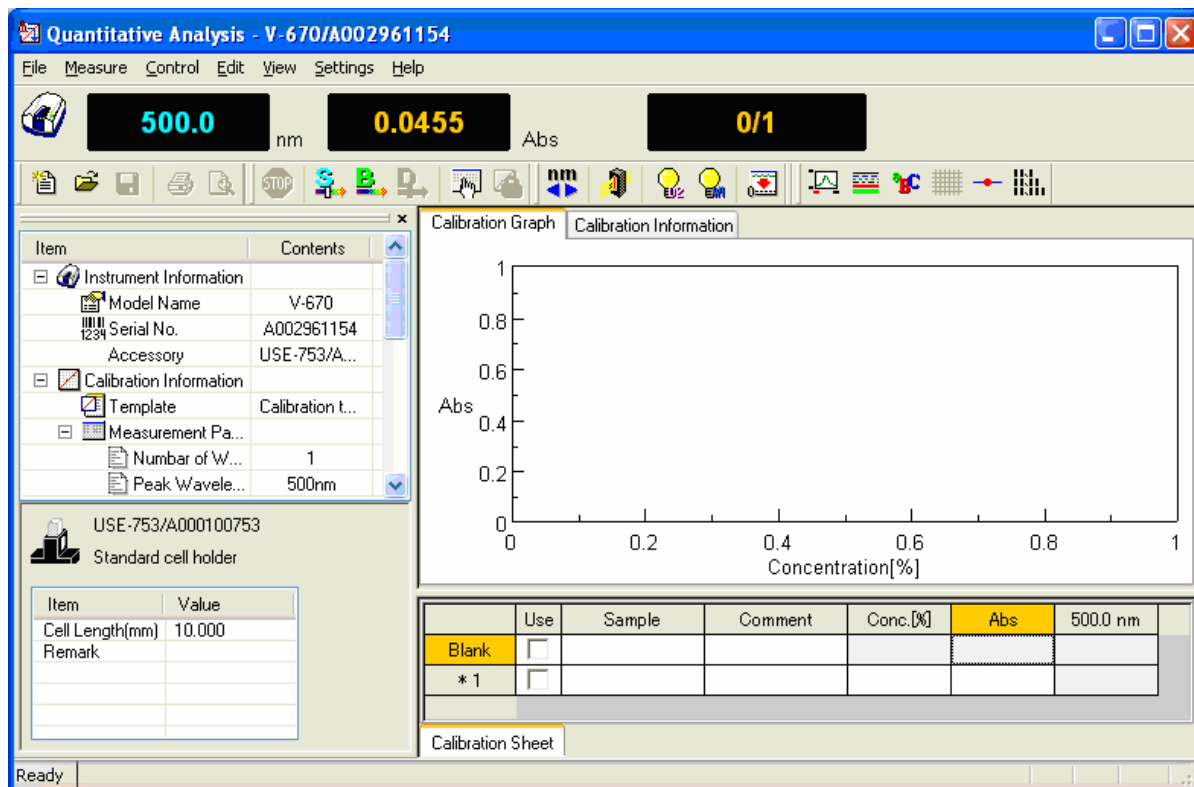

Figure 5.21 [Quantitative Analysis] Window
- Select the target template file and click the <Open> button. The calibration template opens and the Quantitative Analysis window (see Fig. 5.21) is again displayed.